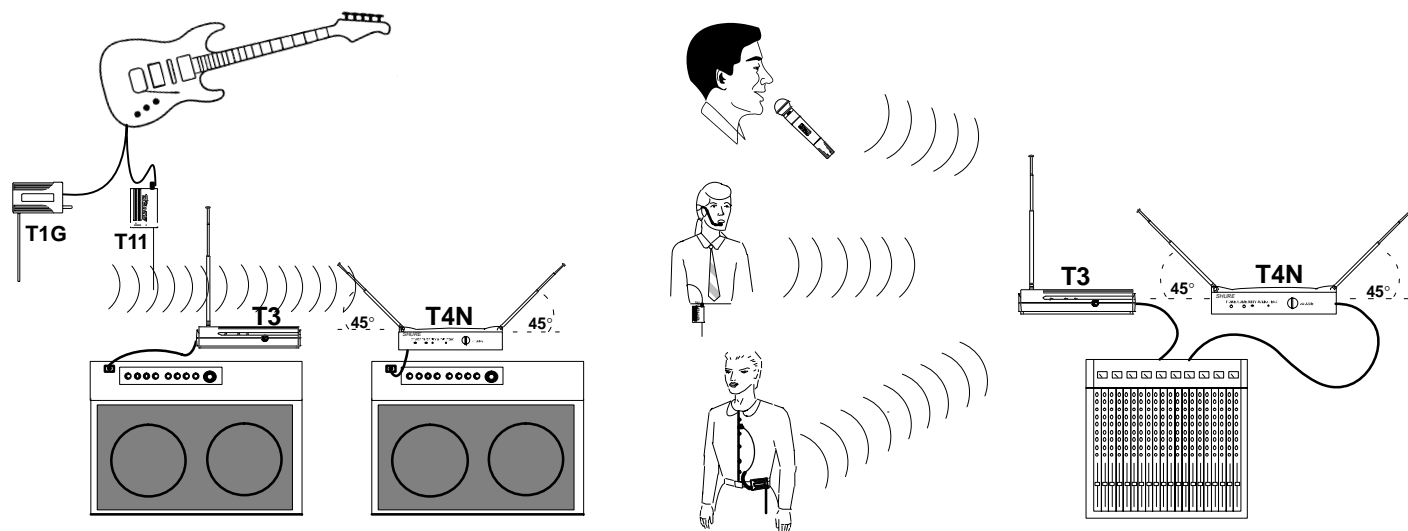

FIGURE 8. WIRELESS SYSTEM OPERATION
2. Connect the receiver output. **The Guitarist:** plug a standard guitar cable into the receiver's output connector. Plug the other end into a guitar amplifier, as shown in Figure 8. **The Headset, Vocalist, Presenter, or Bodypack:** Use a cable with a 1/4 inch phone plug (**T3, T4N**) or a female XLR connector (**T4N**). Connect the receiver to a mic level input of a mixer or PA system (Figure 8).
3. Extend antenna(s). **T3:** The antenna should be fully extended and vertical, as shown in Figure 8. **T4N:** The antennas should be fully extended and angled away from each other, at an angle of 45 degrees from vertical, as shown in Figure 8.